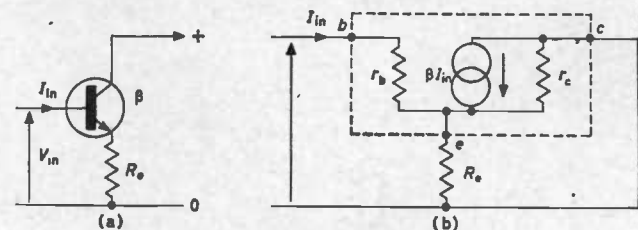

Fig. 1(a). Basic emitter follower
In Fig. 1(a) a reasonable approximation to the value for R_{in} (assuming large signal conditions) would be:
However, returning to the single stage, the simplified equivalent circuit of Fig. 1(b) suggests a somewhat lower value of input resistance than that given by equation (1), due to the presence of collector resistance r_c effectively in parallel with R_e . Furthermore, in practice, transistor collector-base leakage resistance acts to reduce the input resistance still further, and leakage current flowing between collector and base may result in failure of the circuit to operate properly under some conditions.
1(b). Simplified equivalent circuit of Fig. 1(a)
This is achieved by connecting the collectors of the npn transistors to the final stage emitter, which since the circuit has virtually unity gain, means that the first stage collector behaves as a guard ring with respect to the base electrode. Such a circuit arrangement has the following advantages. First, and most important, collector-base leakage current in the first stage is virtually eliminated, and second, a higher effective current gain is realized since the shunting effect of r_o on the effective emitter load resistance is eliminated (see Fig. 1(b)). A further incidental advantage obtained is that the limitation on input signal amplitude imposed by the maximum collector-base voltage rating of the npn transistors is avoided. This is in practice quite important, as transistors having useful current gain at ultra-low collector currents do not in general have high collector-base voltage ratings.